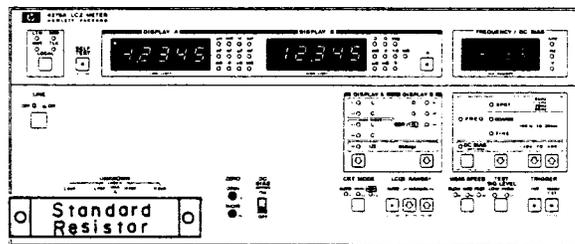

Figure 4-3. Self Operating Test Setup.
1. Connect the 100kΩ Standard Resistor directly to UNKNOWN terminals of the 4276A as shown in Figure 4-3.
7. Connect the 1Ω Standard Resistor directly to the UNKNOWN terminals as shown in Figure 4-3.